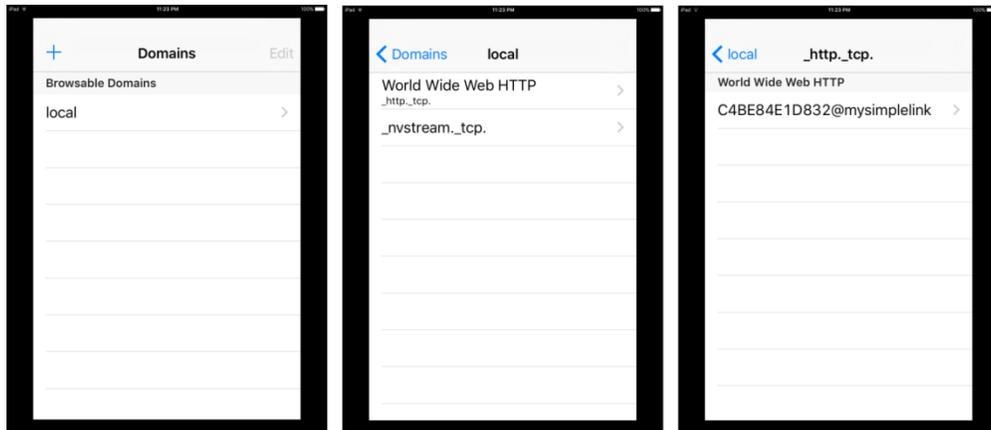

Figure 13. Discovery Application Navigation to XXXXXXXXXXXX@mysimplelink
4. Open the Discovery application and navigate to local -> World Wide Web HTTP -> xxxxxxxxxxxx@mysimplelink, as shown in Figure 13.